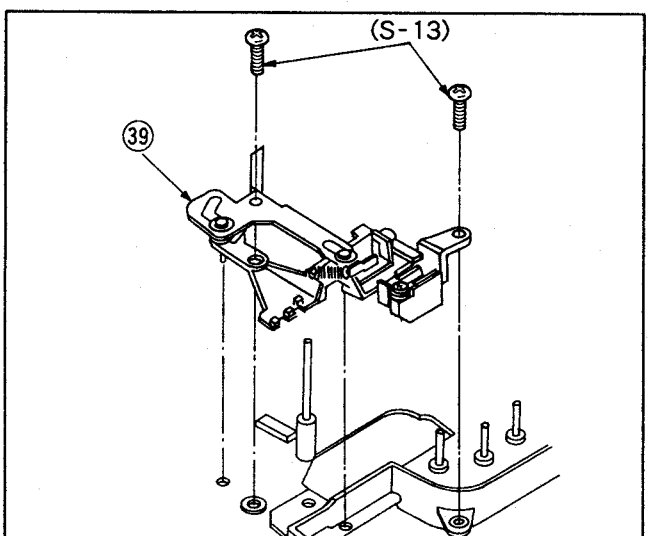

Fig. M20
- 43) Remove the lock base assembly. See Fig. M20.
- 3) Reinstall lock base assembly. See fig. M20.